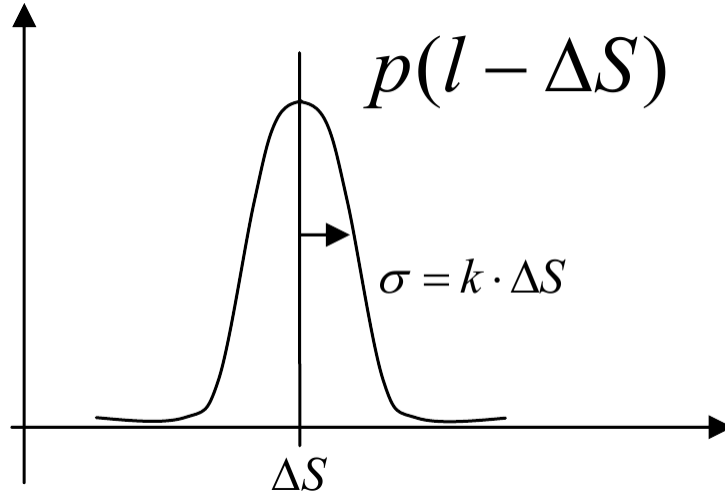
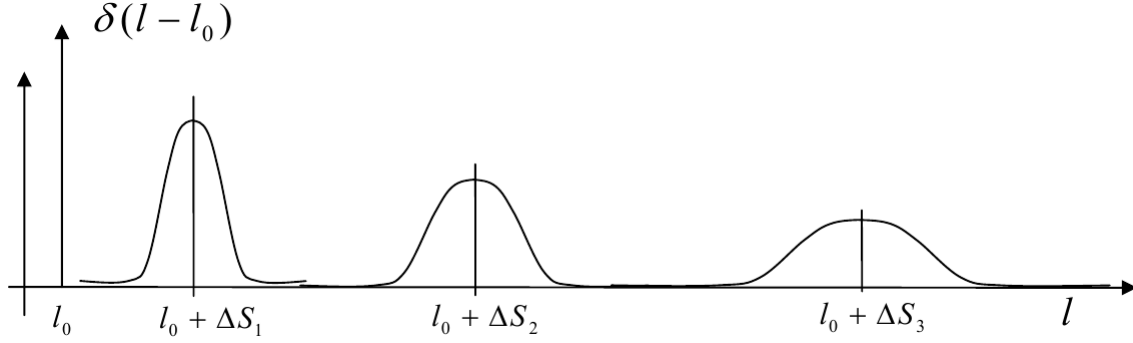

Figure 2: The odometry error model; courtesy of [5].
Figure 3: Robot actions increase uncertainty; courtesy of [5].
Let assume that we use a wheeled robot with odometry motion model. Consequently, the control (action) is based on the encoder sensor information, e.g. move forward $u = \Delta S = 5 \text{ rot}$, where *rot* is a unit representing one full rotation of the wheel. After several exhaustive experiments, we obtain the error model of the action as depicted in figure 2.
In principle, robot actions increase the uncertainty about the robot's state, e.g. its position for the case of localization. Figure 3 and 4 visualize how this happens for the action error model shown in figure 2. Initially, a robot has an absolute certainty about its position at $x_0 = l_0$, which is represented using a dirac distribution. Afterwards, it executes a sequence of three actions as follows: $u_1 = \Delta S_1$, $u_2 = \Delta S_2 - \Delta S_1$ and $u_3 = \Delta S_3 - \Delta S_2$. As can be seen, as the robot progresses, the standard deviations of gaussian distributions of $p(l)$ increase. If it continues to execute the similiar actions, eventually, it will loss information about its localization, in which $p(l)$ has a uniform distribution.
3. At $t = 2$, subfigure 8.c, the robot execute a control to move to the right. The last belief, i.e. $bel(\mathbf{x}_1)$, is simply shifted to the right to form $\overline{bel}(\mathbf{x}_2)$ along with lowered peaks since essentially actions worsens the belief, refer to figure 2 for the action model.